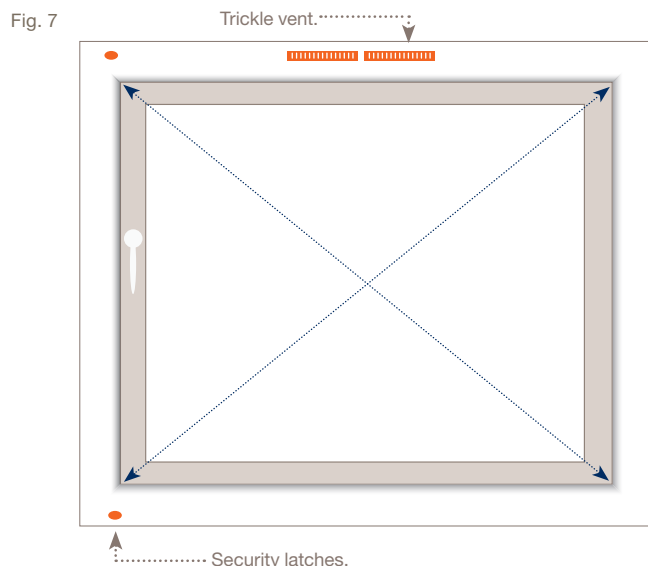

Fig. 7
- Ensure that your window frame is free of obstructions such as trickle vents (Fig. 7) so that you have a clean area to fix the fly screen to.